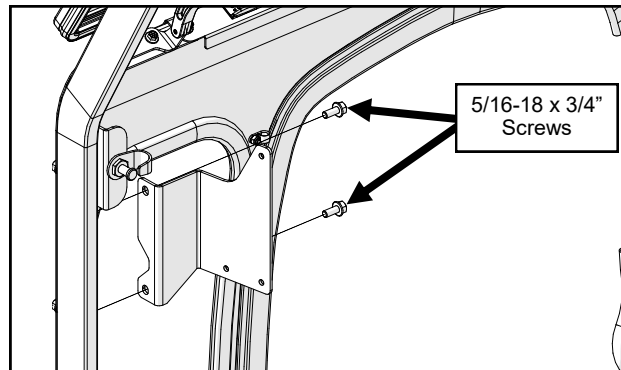

Fig. 17.1 (Install Heater Bracket to A-Pillar)
- 17.1 Attach the heater bracket to the left side frame. See Figure 17.1. Tighten hardware.